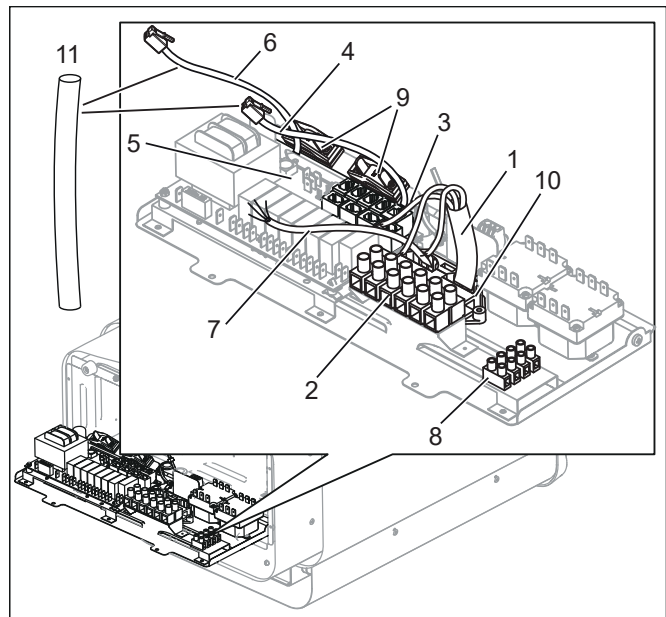
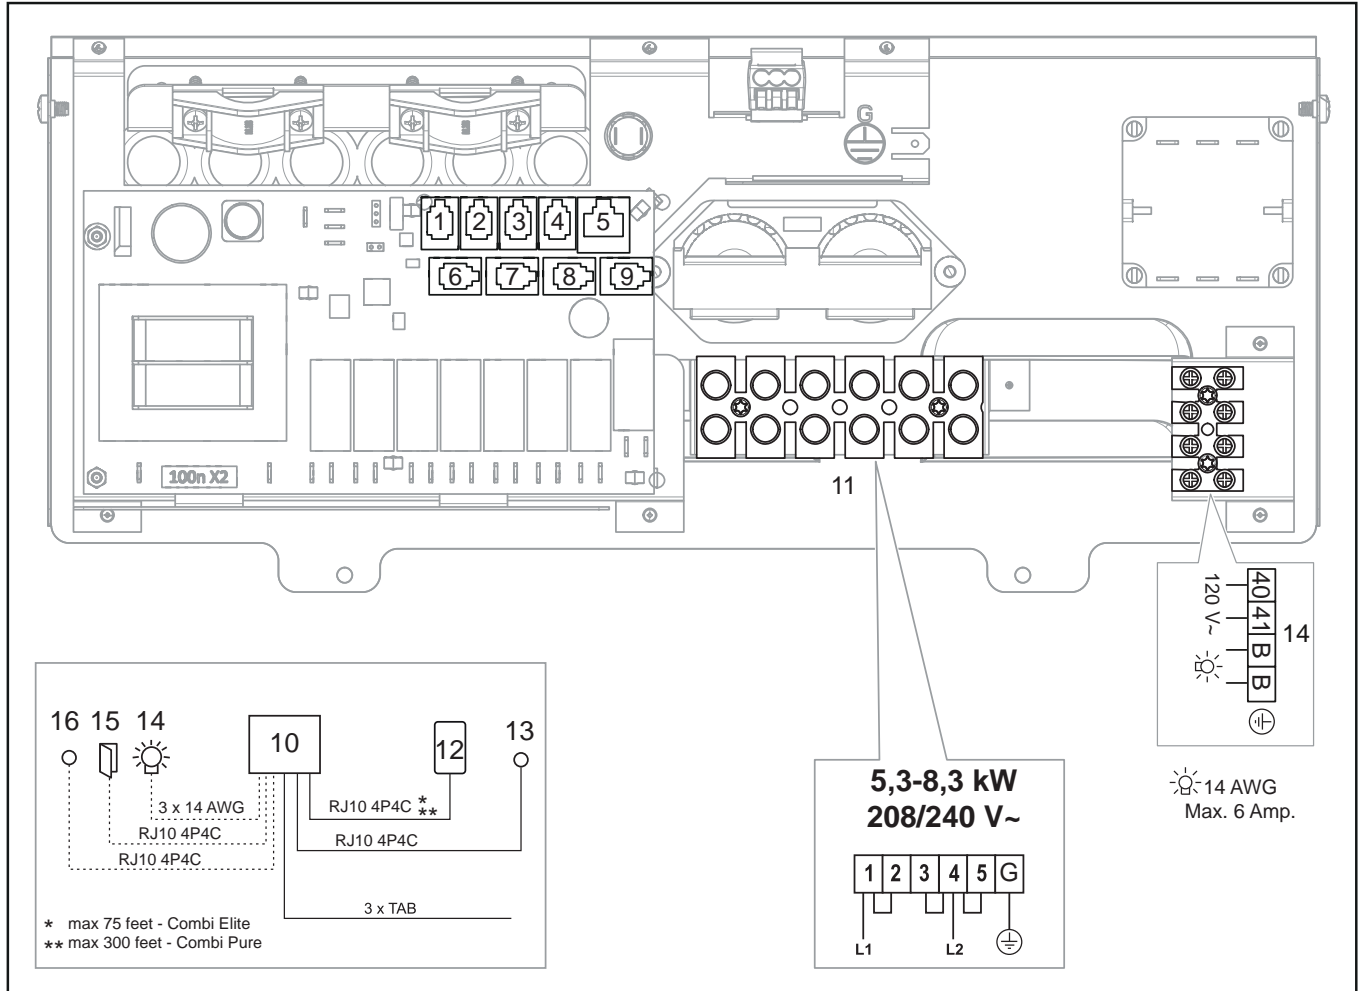

Figure 11: Circuit board
Figure 19: Wiring diagram
4. Connect the main supply electrical cable (1) to the terminal (2) (see Figure 11) according to the wiring diagram (see the Connection/wiring diagram section, page 9).
5. Run the cables for the control panel and the temperature sensor through the cable grommets (3). Connect the control panel cable (4) to one of the four RS485 contacts (positions 6-9) (see Figure 11) according to the wiring diagram (see the Connection/wiring diagram section, page 9 fig. 19).
6. Connect the humidity- and temperature sensors cable (6) to one of the four RS485 contacts (positions 6-9) (5) according to the wiring diagram (see the Connection/wiring diagram section, page 9 fig. 19).
7. Connect the light cable (if relevant) (7), see Figure 11, to the terminal (8) according to the wiring diagram Figure 19.
Contact Tylö Customer Service before connecting to voltages or numbers of phases that are not listed in the wiring diagram Figure 19.
- 1. Modular plug (RJ10, see Fig 19)